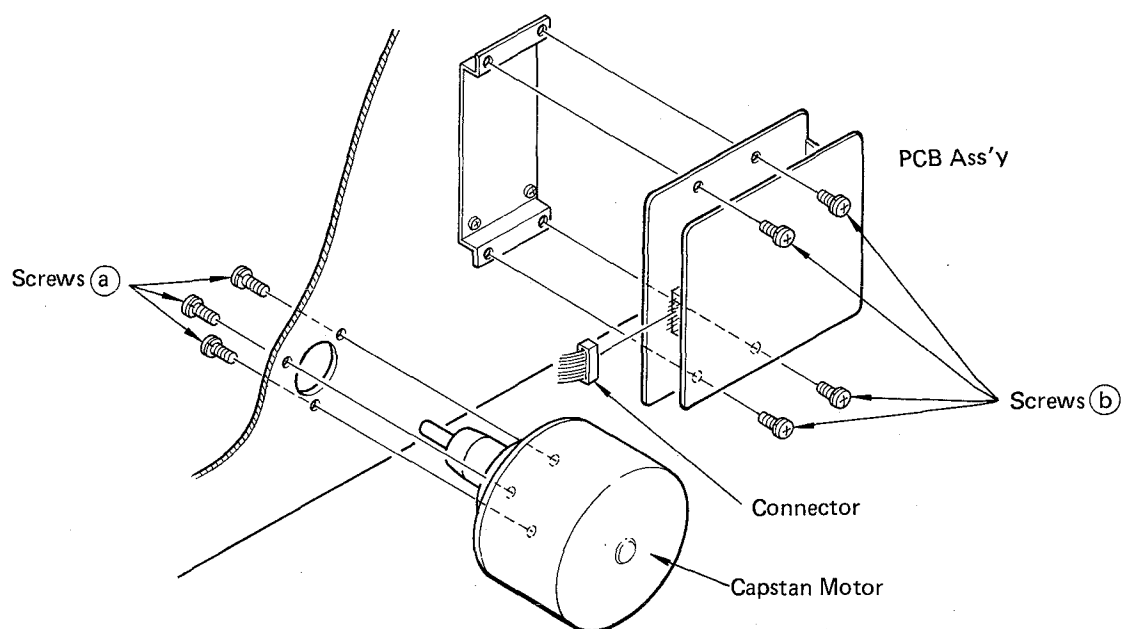

Fig. 7-9. Capstan Motor Ass'y
1. As described in 7-4-1, remove the front panel (A) assembly, the dress panel (A) and both rear panels (A) and (B).
2. Remove the three screws (a) that are holding the motor section onto the capstan motor assembly as shown in Fig. 7-9. Next, remove the four screws (b) holding the PCB assembly and disconnect the connector to completely remove the capstan motor assembly.